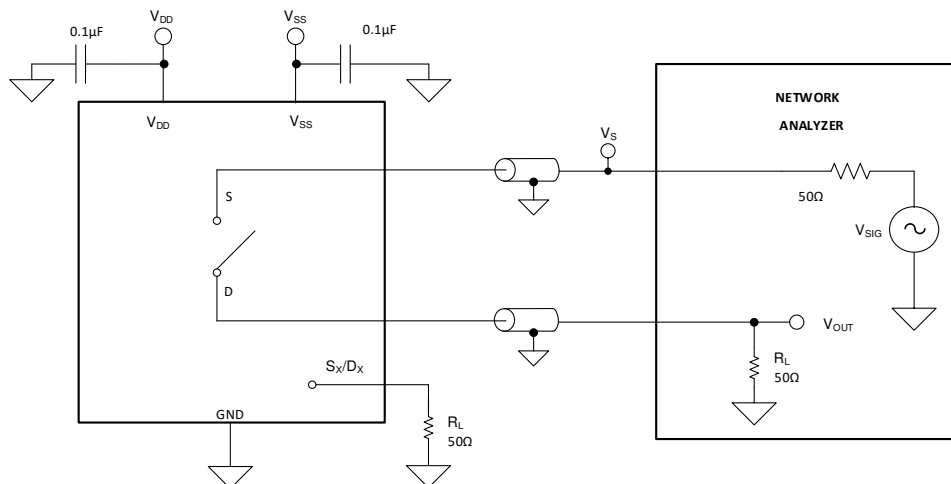

图 7-8. Off Isolation Measurement Setup
Off isolation is defined as the ratio of the signal at the drain pin (D) of the device when a signal is applied to the source pin ( $S_x$ ) of an off-channel. 图 7-8 shows the setup used to measure off isolation. Use the off isolation equation to compute off isolation.